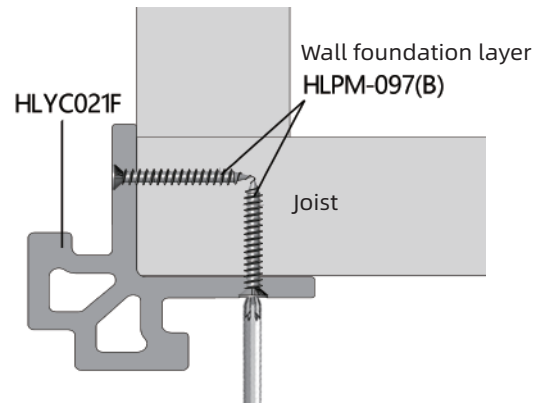

Fig19
1. install the HLYC-021F. as shown in Figure 19: